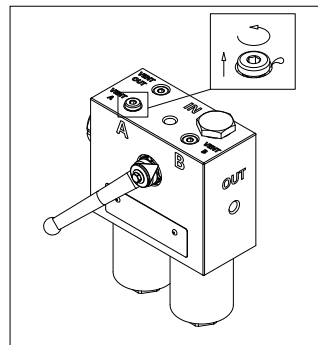

fig. 2
- (Fig. 2) Bleed the possible air from the system on the NEW SIDE by loosening the breather plug "Vent A" or "Vent B" by a maximum of one turn, until the operating fluid starts oozing